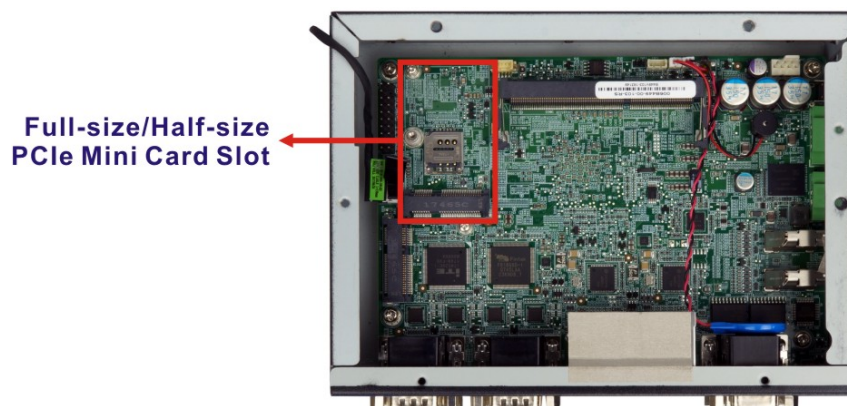

Figure 3-10: PCIe Mini Slot Location
Step 2: Locate the PCIe Mini slot on the motherboard (Figure 3-10).